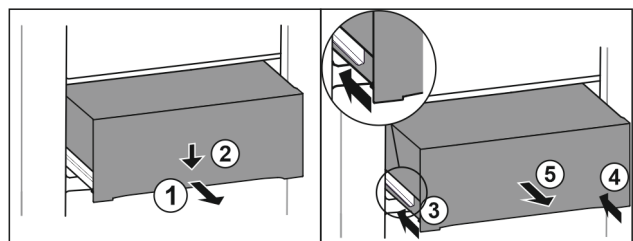

Fig. 154
- ▶ Pull out the drawer halfway. *Fig. 154 (1)*
- ▶ Press down the drawer on the front. *Fig. 154 (2)*
- ▶ Push in the left rail approximately 2 cm. *Fig. 154 (3)*
- ▶ Push in the right rail approximately 2 cm. *Fig. 154 (4)*
- ▶ Remove drawer to the front. *Fig. 154 (5)*